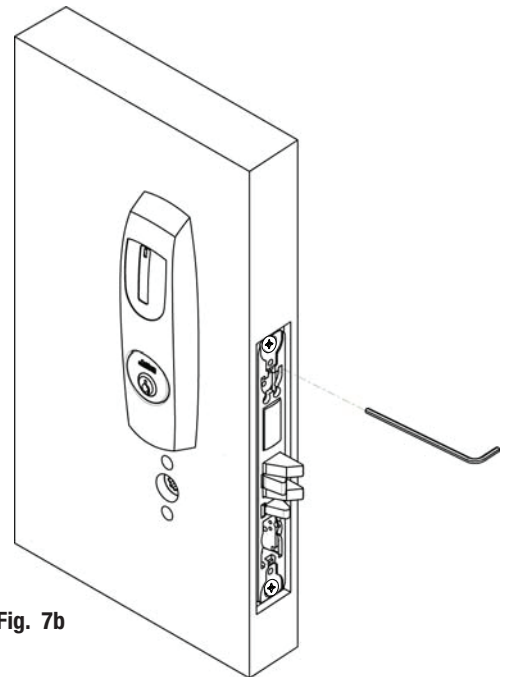

Fig. 7b
- b. Tighten cylinder clamp using 7/64" allen wrench provide (Fig. 7b and 7b1).